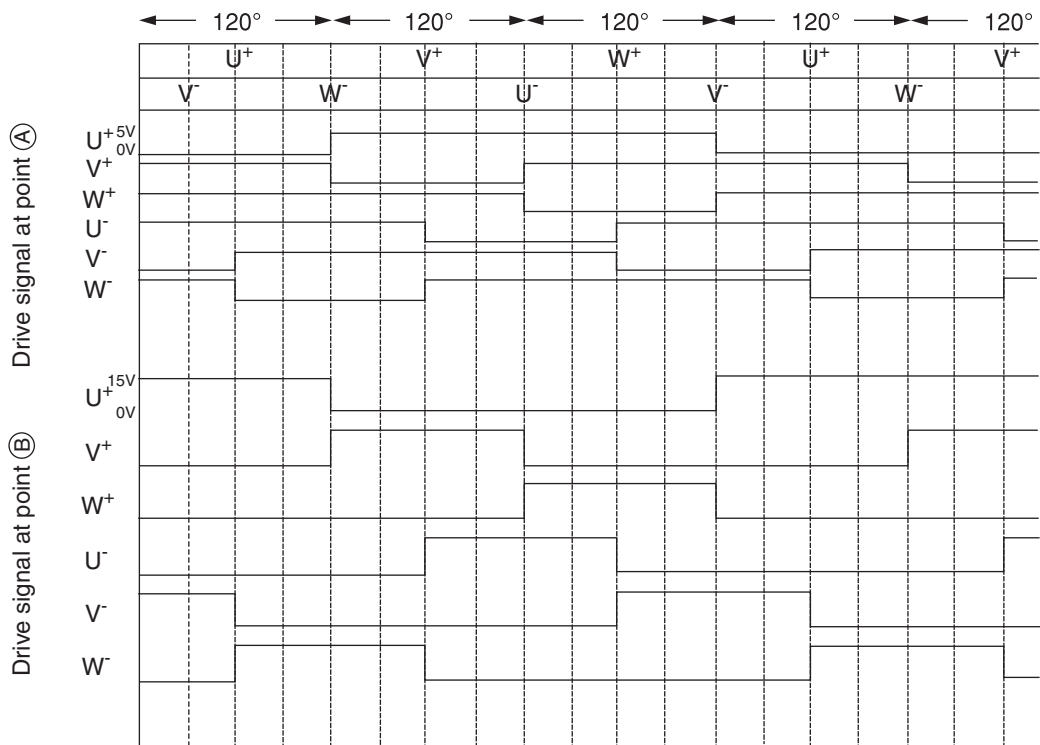

Fig. 7-3
- In high speed rotation mode (PWM range), as shown in Fig. 7-3, 0-5V drive signal is output from microcomputer for each phase (with no chopper because of full duty). Signal output from microcomputer is inverted by active Lo to become 0-15V drive signal; it is then drive the transistor of each phase.